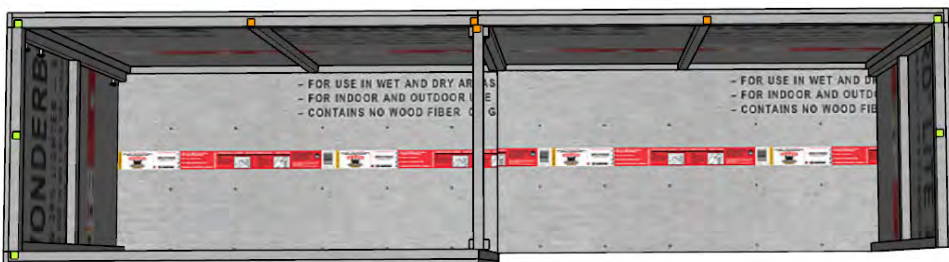

Figure 10
- Insert module 2 floor as shown in figure 10